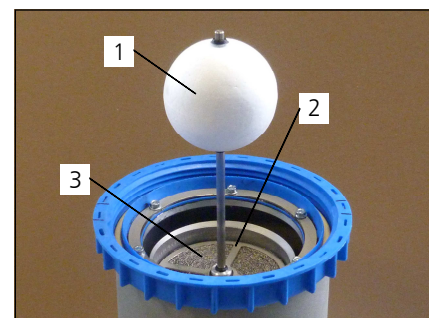

Fig. 2
- Remove the floater and the lower cover plate (Fig. 2)